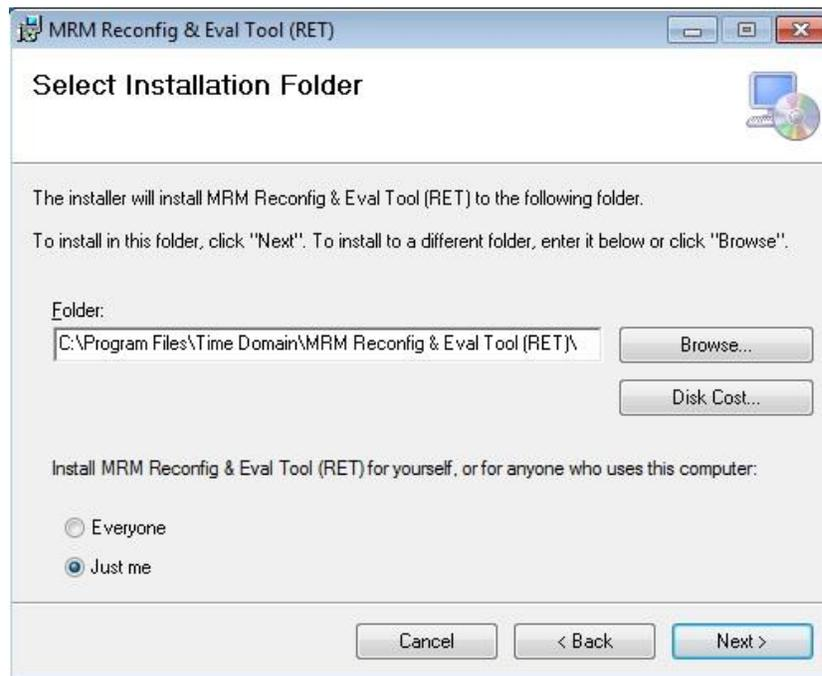

Fig. 2: Screen for designating Program Files location for MRM RET software
5. When you reach the screen shown in **Figure 2**, you will be given a choice of directories into which the MRM RET software can be loaded.